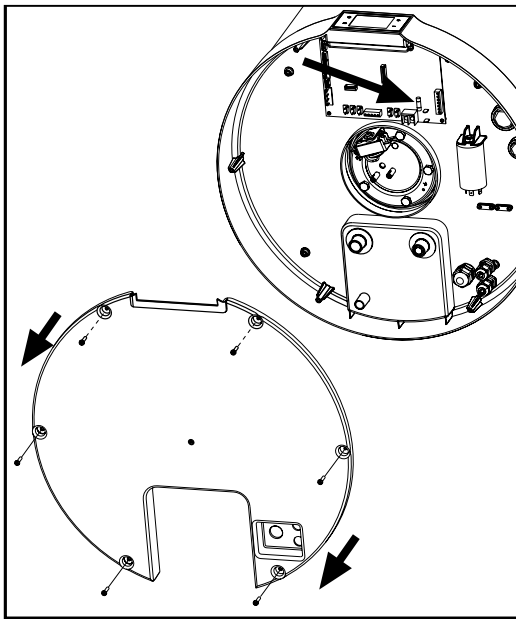

fig. 64
- Remove the bottom cover by first undoing the locking screws (fig. 64).